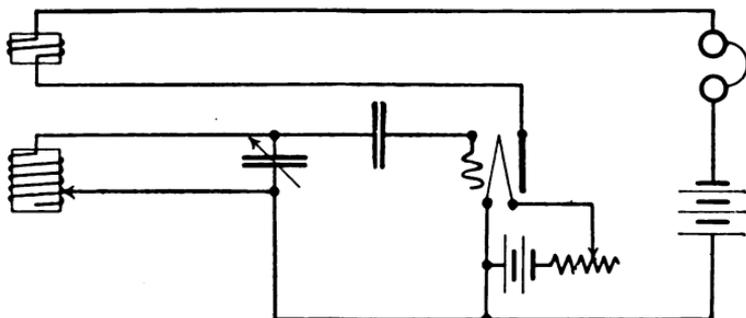

Fig. 18.—The Typical Tickler Coil Circuit for Regeneration or Undamped Wave Reception.
**A. Tickler coil coupling.** The tickler coil, Fig. 18, is most often used to amplify spark signals and to make the